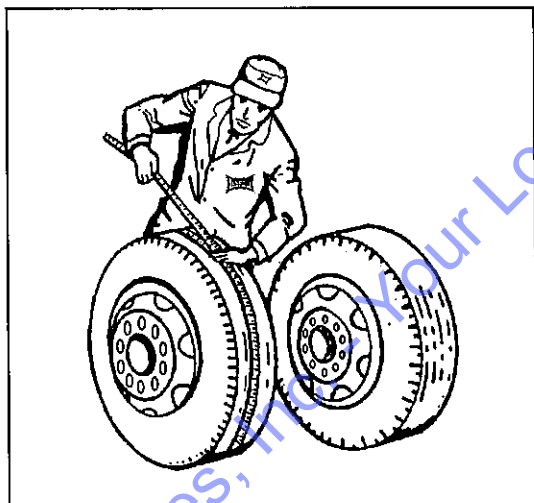

Fig. 4-17 Measuring Tape Method
**a. Tape Measuring Method:** Measure around each tire on the tread surface. A maximum difference of  $3/4$ " is allowed between the two mating tires of a dual (See **Figure 4-17**).